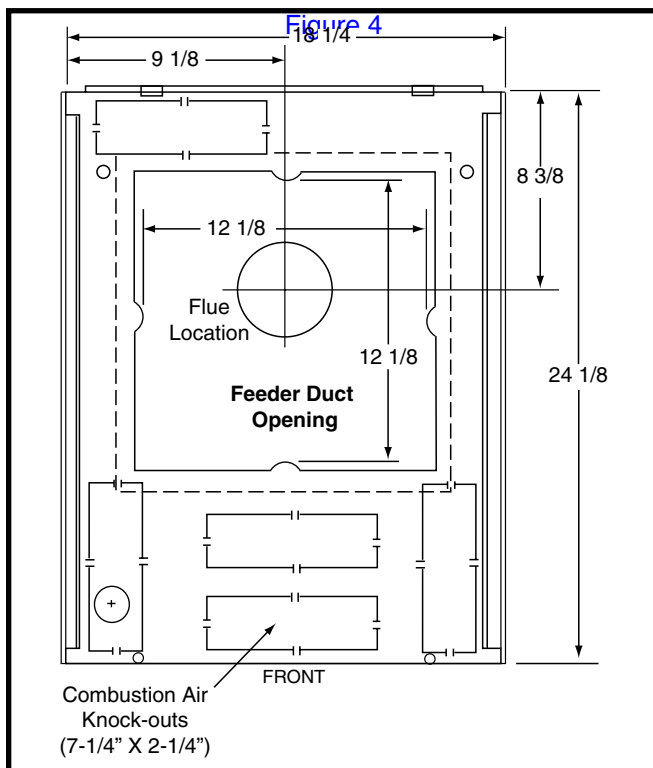

Figure 4. MA-200 Base Pan
1. Using the base pan as a guide, locate and mark the 12 1/8" x 12 1/8" opening for the Feeder Duct. See Figure 4 \(page 9\). **NOTE:** If using the combustion air duct, knock out the duct opening to be used and mark the 2-1/4" x 7-1/4" opening on the floor also.